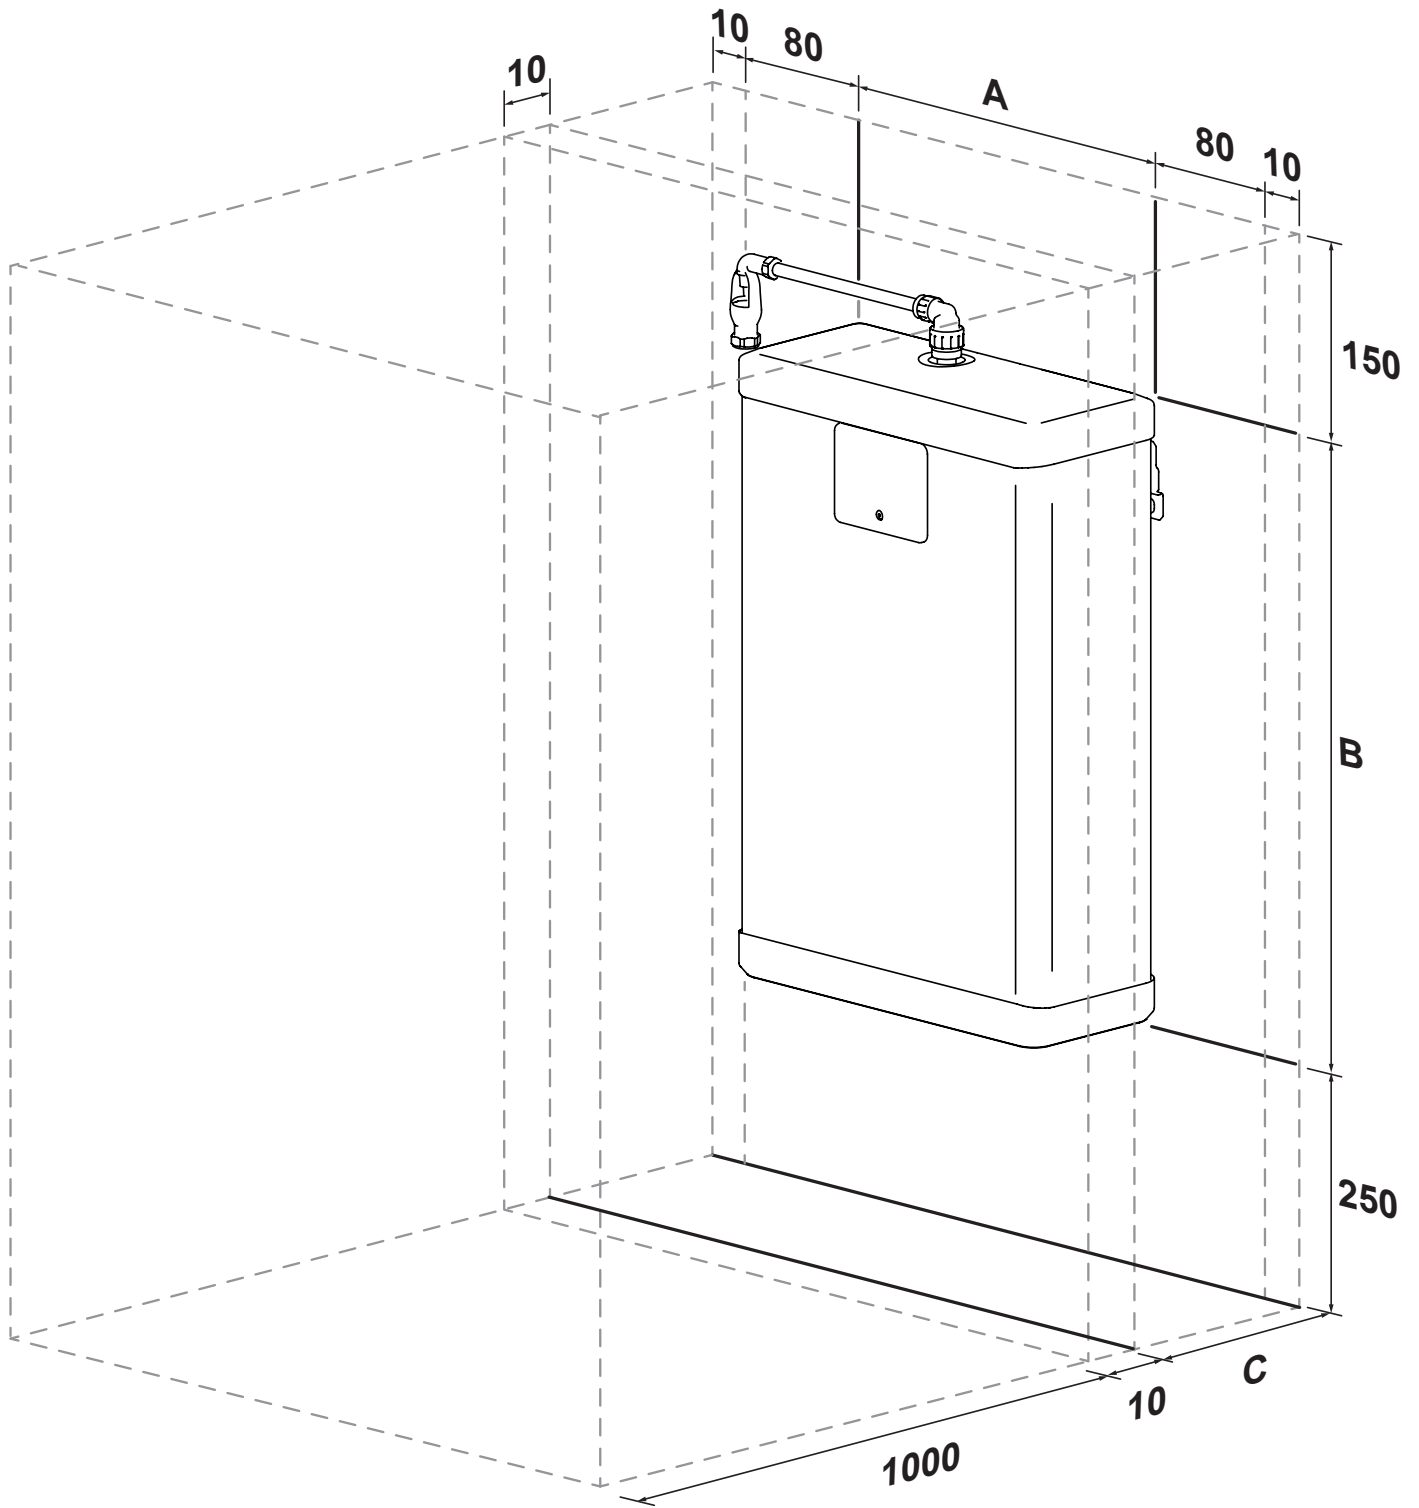

Figure 6: Clearance diagram
Access to associated controls must be available for the servicing and maintenance of the system, the heater requires access from the front and underside for this purpose, refer to figure 6 page 12. Ensure that the wall the unit is mounted on, is perpendicular and capable of permanently supporting the weight when it is full of water, see Table 1 on page 6 for the unit weights.
It is important that as much access available is provided around the unit as is practical. In the event of a component failure, full access to the front and underside of the unit is required for servicing. A minimum of 150mm above the top of the unit must be kept clear for access, refer to figure 6, page 12.
- ▶ Mark the position of the bottom edge of the heater ensuring that this position is a minimum of 1.2 meters above the highest draw off point see figure 6, page 13.
Each installation can differ in requirement see figure 6, page 13 for a typical installation.